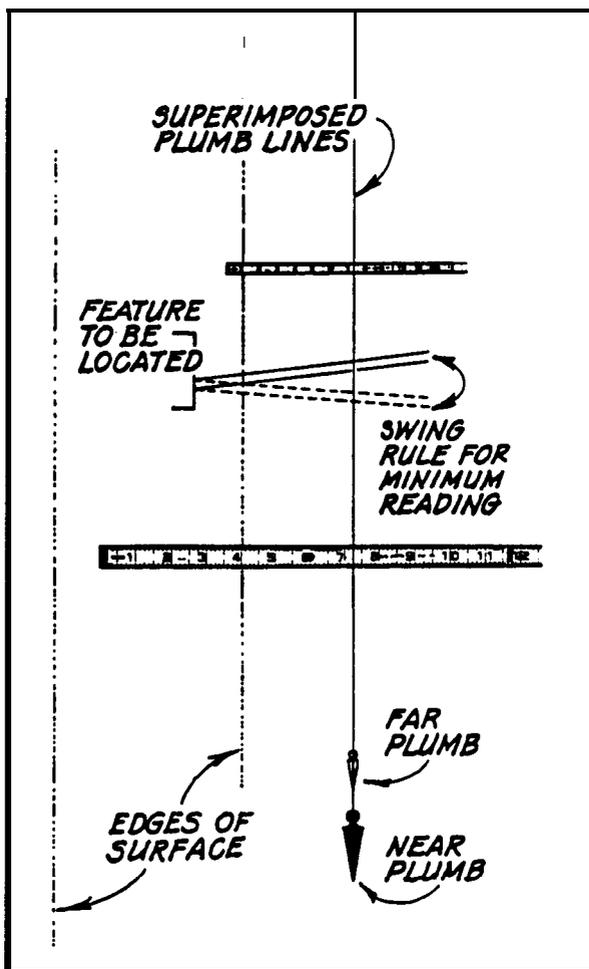

Fig. 4.12
1. Plumb Bobs. The plumb bob is the simplest and most foolproof vertical reference line instrument. Its truth is with two plumb lines by sighting across the visually superimposed strings and aligning them equidistantly from a vertical surface (or other reference points). The line-of-plane can then be used to read swing ties to features (see Fig. 4.12). The plumb lines could be set up over a grid line or reference line pulled along the ground in order to take horizontal dimensions with reference to the plane.
ends of the wall at an equal dimension (similar to setting a plane with plumb lines, see Fig. 4.12). Use swing ties to measure from features on the wall to the laser plane.
3. **Transits.** Transits and theodolites contain precise circles whose aligned by the instrument frame and the leveling process. Just as the horizontal circle is used to set horizontal reference planes, the vertical circle can be used to set vertical reference planes. Move the telescope until equal measurements are sighted through the reticle on two rules set at the base of a wall (or whatever feature is to be measured), similar to Figure 4.12. Lock the horizontal circle and take swing ties from features to the plane of the vertical circle; read dimensions with the telescope.
laser beam indicates the location of the plane directly, and you find a minimum measurement quickly. This kind of swing tie will work as well with and vertical reference planes (see Fig. 4.12), but it does not work easily at all with a water level or string level.